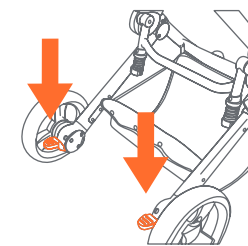

Fig. 10
- 10) • To engage brakes, apply downward pressure to the brake lever located on the rear axle. The stroller might have to be required to be rolled back and forth to fully engage the brake (Fig. 10). Check that the stroller will not move once the brakes are properly applied. The brake indicator will be red when locked and green when unlocked. To release, gently lift up on the brake lever.